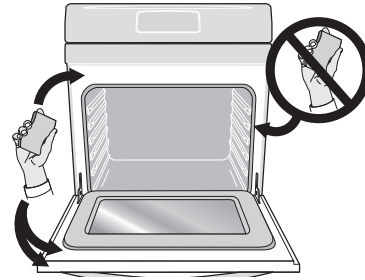

Figure 35: Clean around the oven door gasket
9. Wipe oven cavity and bottom. Do not clean oven door gasket (Figure 35). Avoid leaning or resting on the oven door glass while cleaning cavity.